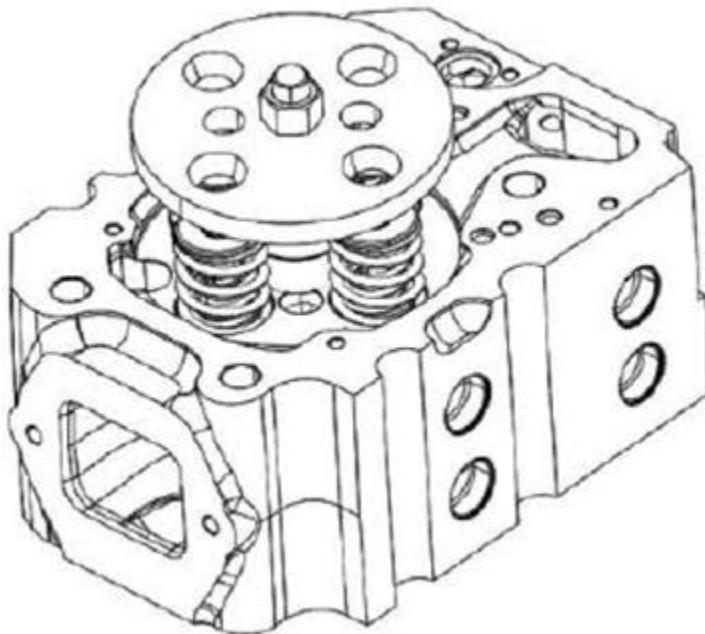

Figure 47. Valve Spring Compressor Assembly
5. Lift all cylinder heads away from the cylinder block (Figure 47, Item 8). Discard all cylinder head gaskets (Figure 47, Item 9).
8. Using a valve spring compressor tool, compress the valve springs (Figure 47).